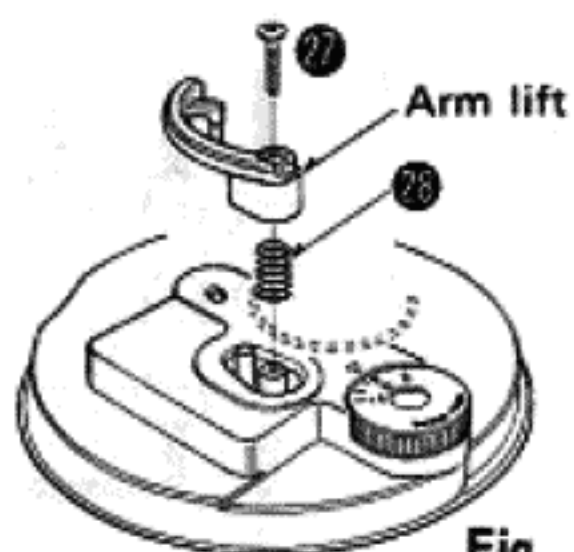

Fig. 9
1. Remove the arm lift setscrew and springs (Fig. 9: ⑦, ⑧) to detach the arm lift.